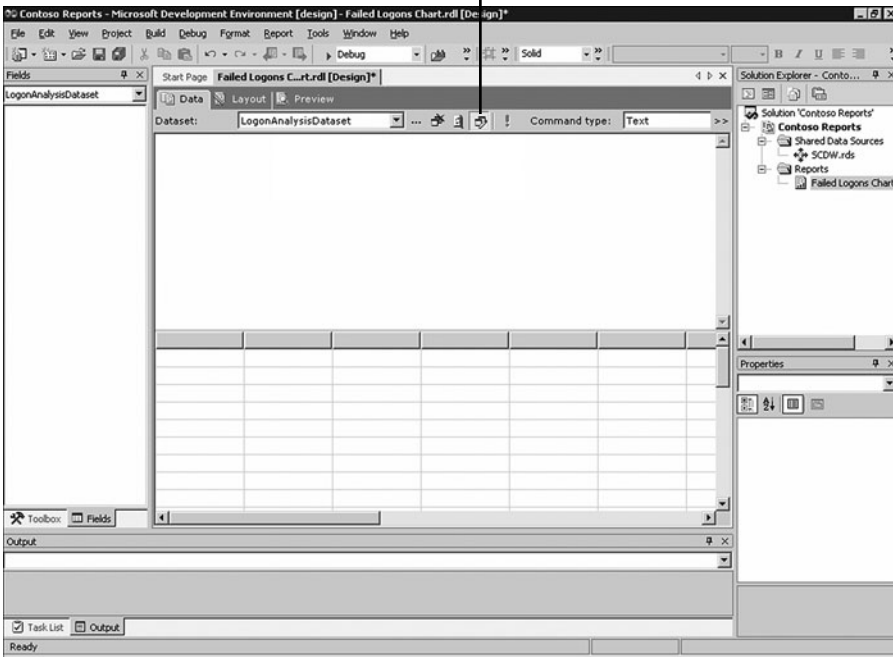

FIGURE 21.14 The Generic Query Designer button.
5. After the dataset is created you can add the SQL views required to obtain data from the report database. Click the Generic Query Designer button to switch to the graphical query designer view. Figure 21.14 shows the Generic Query Designer button.